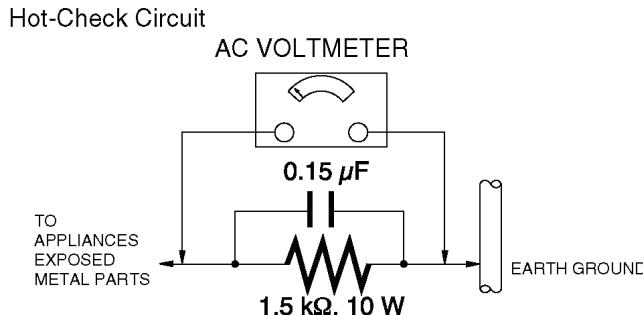

Figure. 1
## 1.3. Leakage Current Hot Check (See Figure 1.)
2. Connect a  $1.5\text{k}\Omega$ ,  $10\text{W}$  resistor, in parallel with a  $0.15\mu\text{F}$  capacitor, between each exposed metallic part on the set and a good earth ground, as shown in Figure 1.